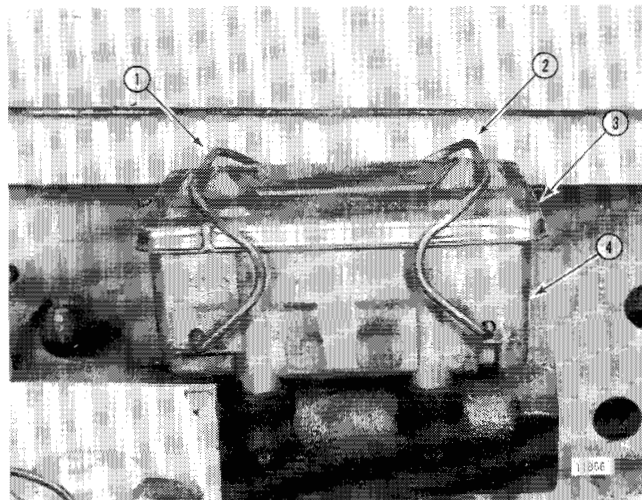

Figure 23
3. Swing bail wires (1 and 2, Figure 23) to the side and remove reservoir cover (3) from the master brake cylinder (4).